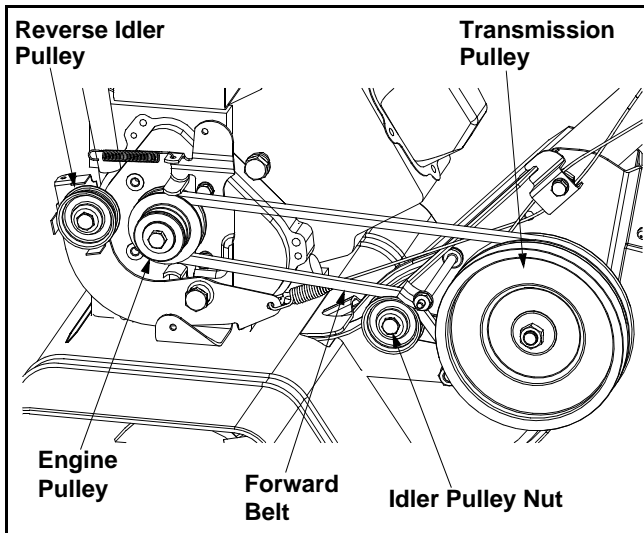

Figure 18
- Lift belt off the idler pulley and transmission pulley. See Figure 18.
- Push reverse idler pulley bracket forward, and remove engine pulley and belt. See Figure 18.